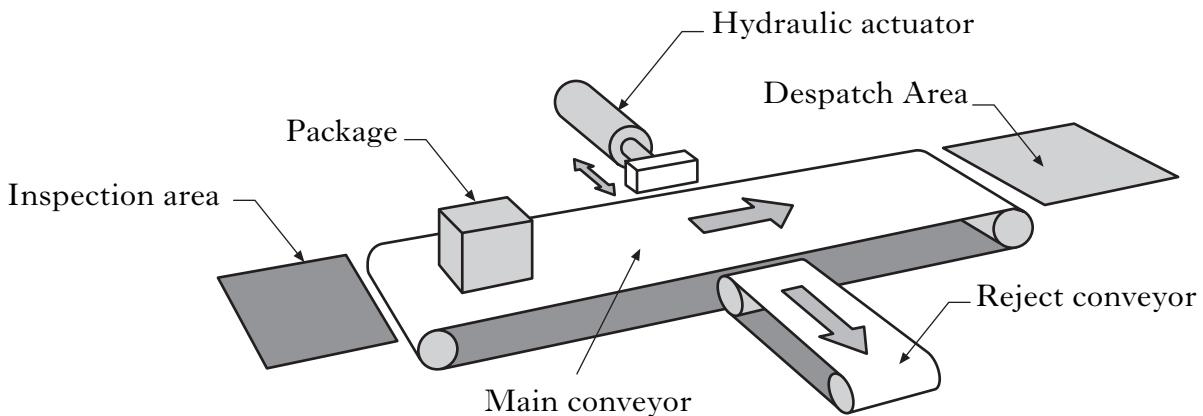

Figure Q7
- Briefly explain the operation of a Normally Open (NO) contact in a PLC ladder diagram. 1
- A mechatronic system has a Normally Open (NO) start contact (X0) and a Normally Closed (NC) stop contact (X1). The output Y0 is enabled and latched when the start button is pressed. Output Y0 can only be switched off when the stop button is pressed. Draw a Ladder Diagram to show how this could be implemented using a PLC. 3
- Note: the inserted PLC data sheet Q6, Q11 gives the PLC instruction set.** (5)
7. Figure Q7 illustrates an automatic inspection/sorting system.